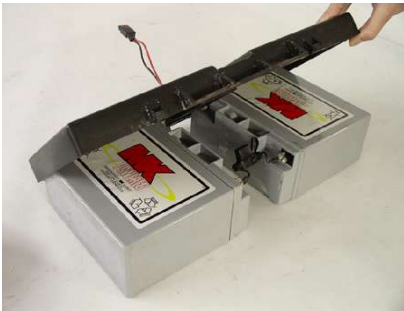

Figure 17
STEP 7: Lay the battery tray over the batteries.(See Fig 17) Position the batteries until they are properly aligned in the tray. Holding onto the batteries in the tray, carefully flip the batteries/tray over.(See Fig 18) Reinstall the battery straps.(See Fig 19) Make sure that when you install the locknuts to have the flat side of the nut facing up when installed in the battery tray.(See Fig 20) Double check the orientation of the wires. Installation is complete.